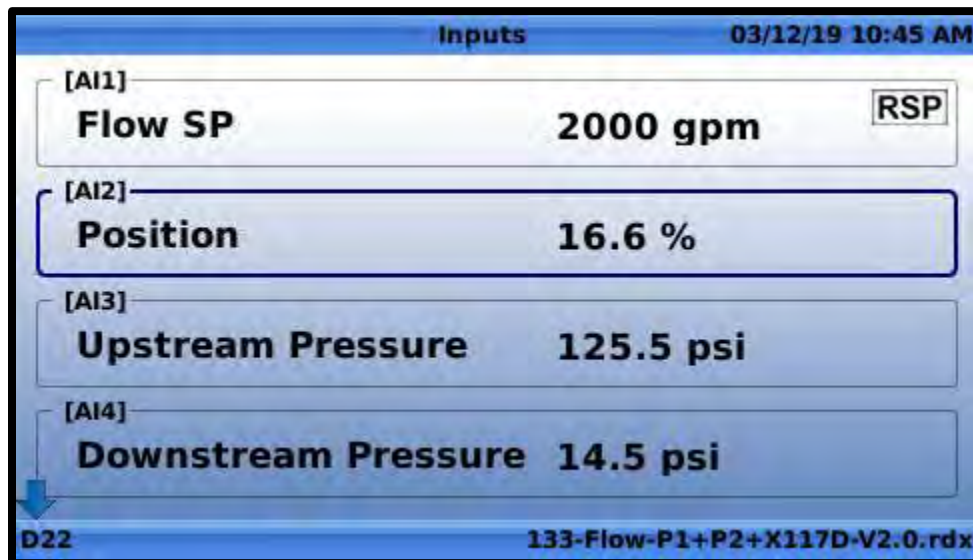

Figure 8.9
2. Use the up and down navigation buttons to highlight the input to be overridden as shown in **FIGURE 8.9**.